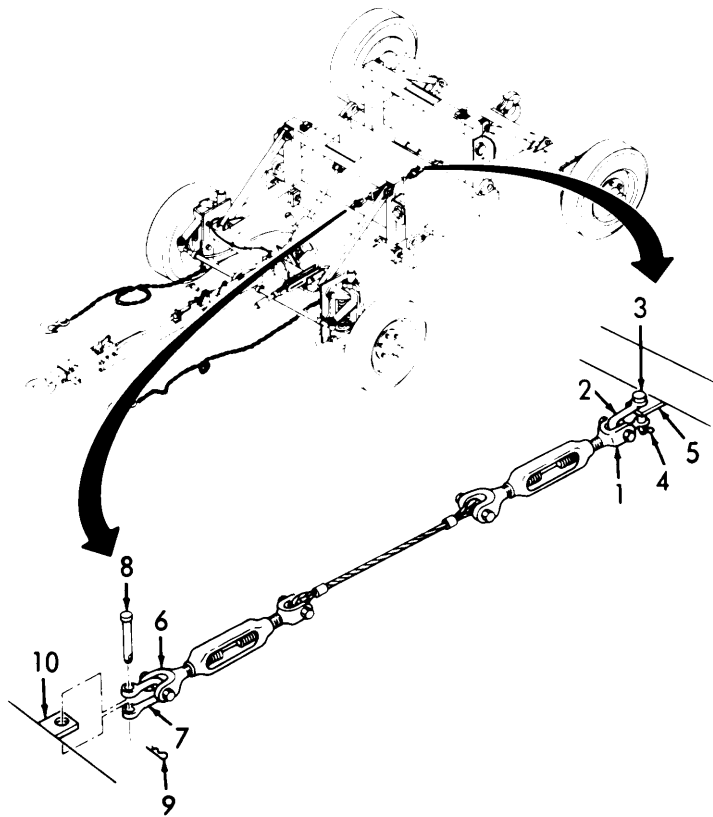

Figure 3-1. Safety Cable Connection.
e. Refer to Figure 3-1 and connect safety cable to front and rear transporter frames as follows:
- (1) Position turnbuckle (1, Figure 3-1) and shackle (2) on rear transporter frame eye (5).
- (2) Install pin (3) and cotter pin (4).
- (3) Position turnbuckle (6) and shackle (7) on front transporter frame eye (10).
- (4) Install pin (8) and cotter pin (9).